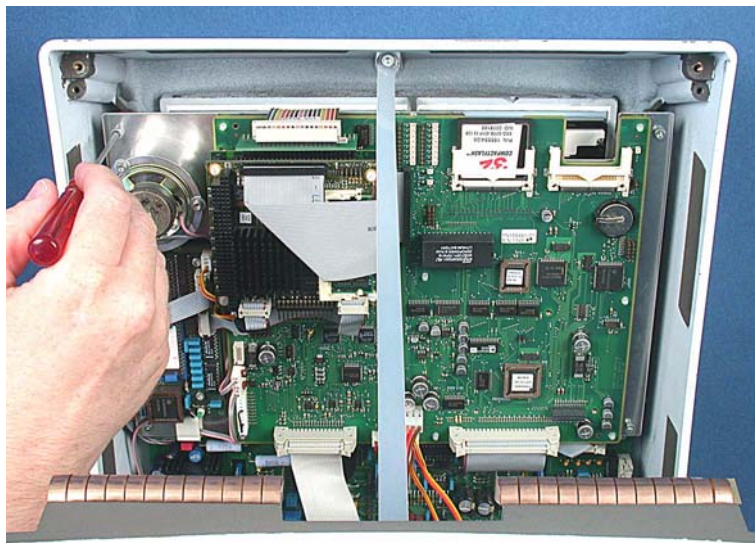

Figure 11-133. Unscrewing the control board mounting plate
2. Unscrew the control board mounting plate. (Figure 11-133.)